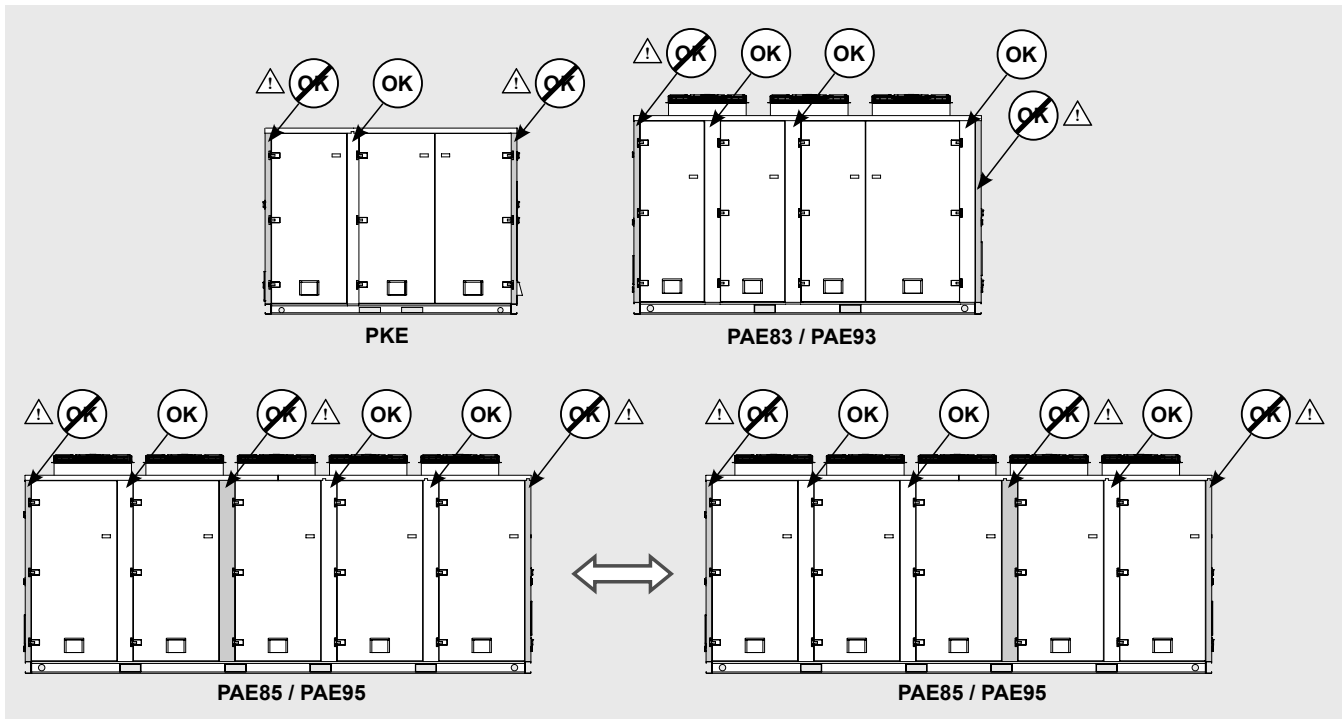
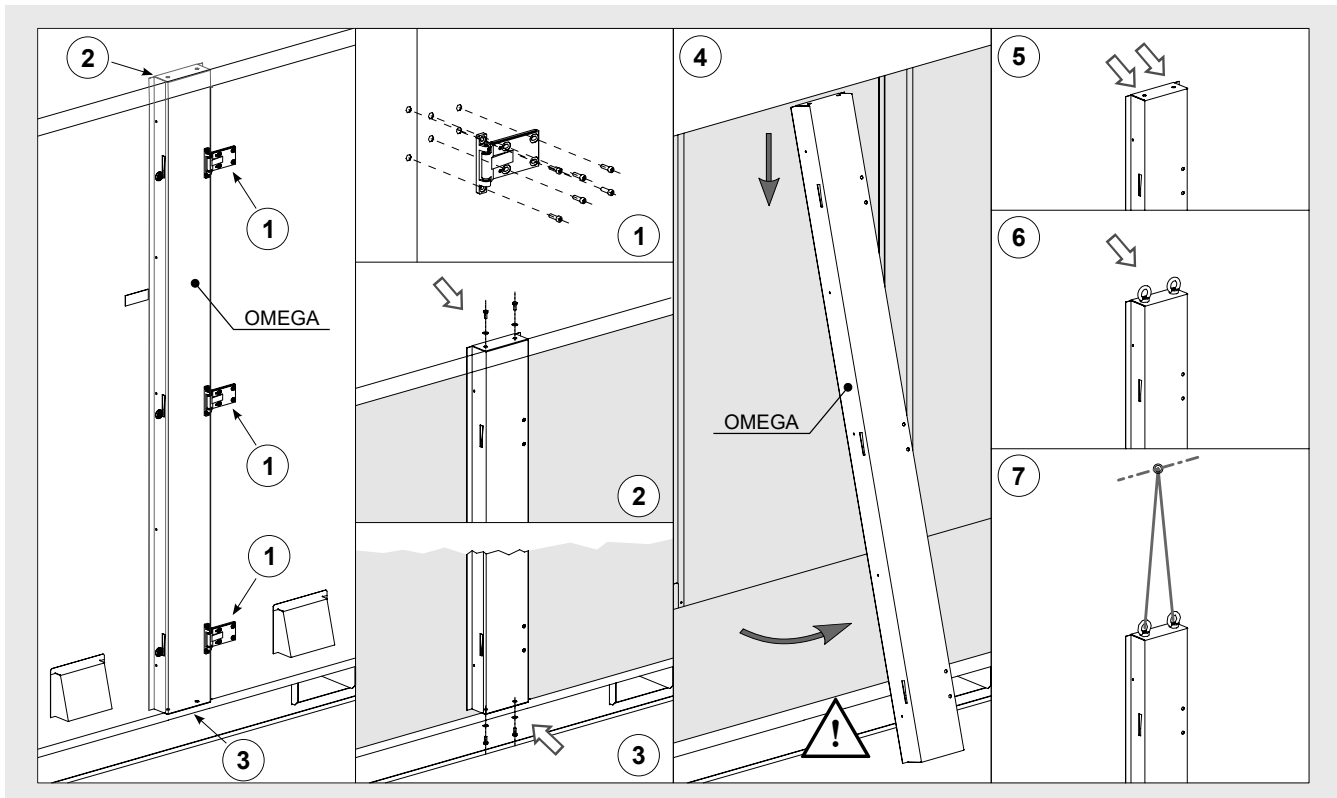

Figure 11
Figure 12
- 6.33 Once the doors have been removed, it is possible to remove the omega-shaped supports present in the front wall of the technical compartment. Do not proceed with the removal of the omega-shaped supports without first removing the doors as per Chpt. 6.24 - 6.29. Operations must be reserved to authorized and qualified personnel. Remove only permitted omegas - see "Figure 11" and "Figure 12".
- 6.35 For omega-shaped support removal on PAE and PKE models (see "Figure 11" and "Figure 12"):